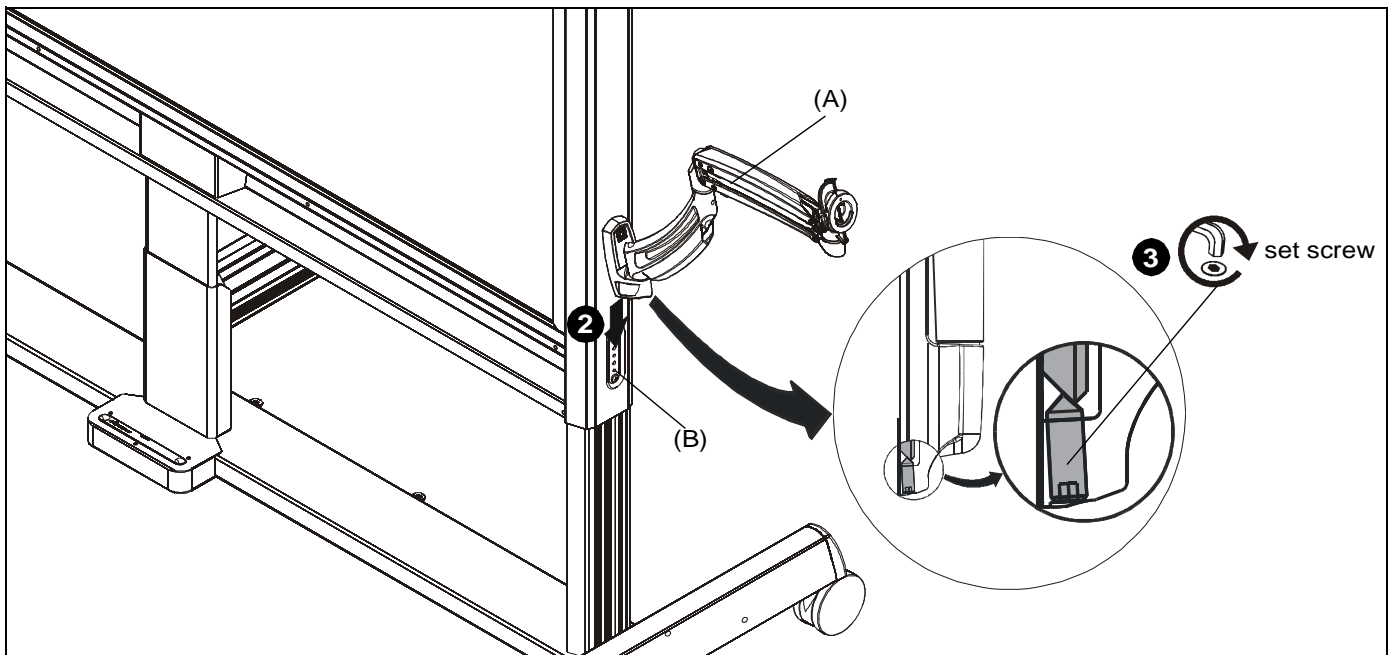

Figure 3
2. Hang swing arm (A) onto attachment bracket (B). (See Figure 3)
3. Secure swing arm (A) to attachment bracket (B) by tightening set screw. Ensure set screw engages back side of attachment bracket (B) to properly secure mount. (See Figure 3)